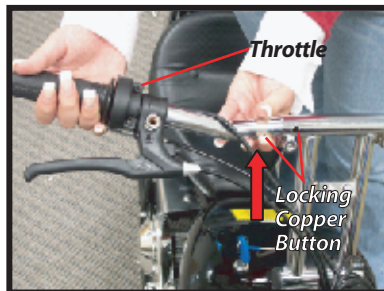

Fig. 2
4. Insert the throttle into the handlebar assembly by depressing the copper colored button and aligning it with its seated hole. Insert until the throttle locked in position. Repeat this procedure with the left accessory control grip. Secure the throttle and accessory control grip by tightening the allen bolts located directly below the copper colored buttons. (Fig. 2)